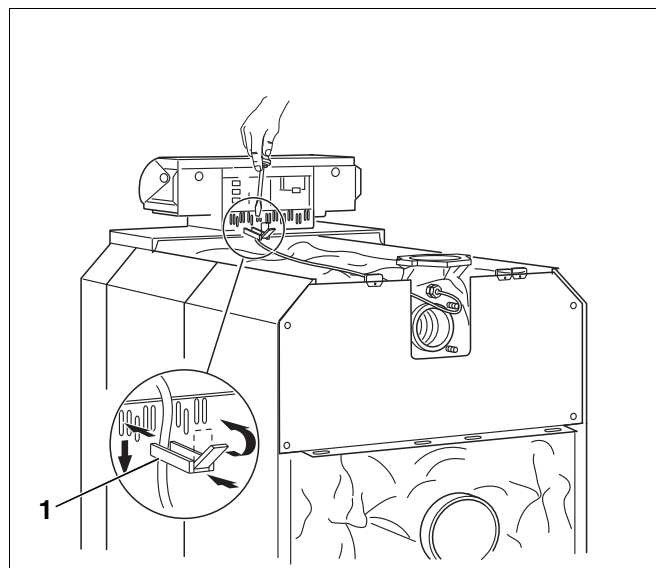

Fig. 64 Fastening the electrical leads
- Insert cable clips with cable inside into the clip frame and secure by clamping it with the tab (Fig. 64, [1]).